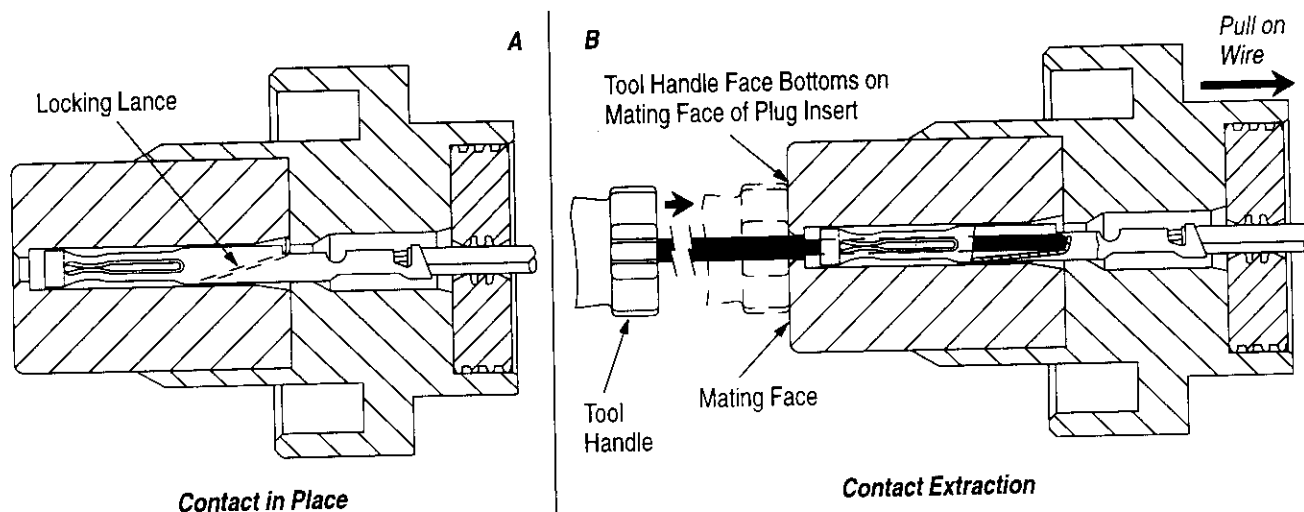

Figure 3
4. EXTRACTION PROCEDURE (Figure 3)